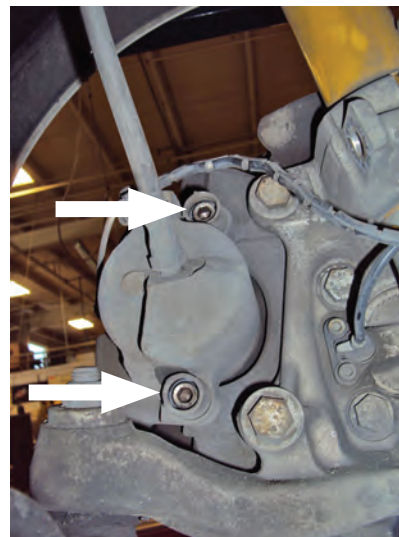

fig. 4
1. Disconnect the brake caliper from the brake hanger bracket and tie to the vehicle chassis (fig. 4).